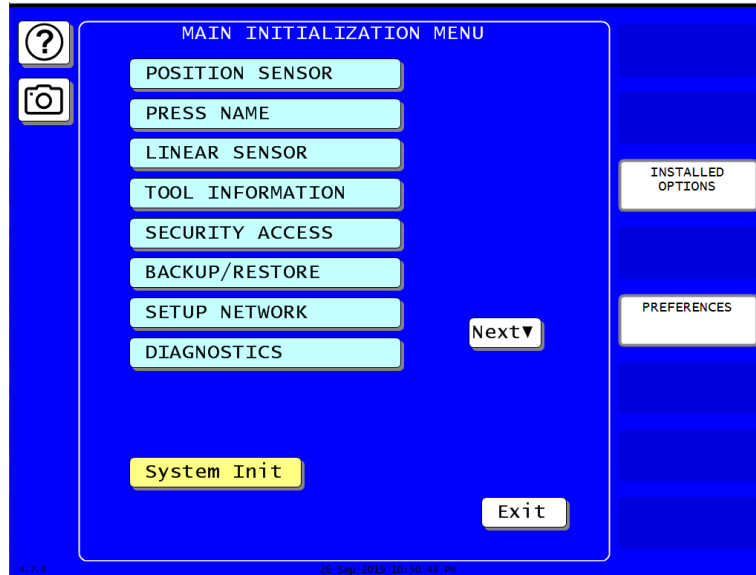

Figure 2-21. Main Initialization Menu
1. With the Main Program Menu on the SmartPAC PRO Servo display, INITIALIZATION MENU to display the Main Initialization Menu (see Figure 2-21, page 58).